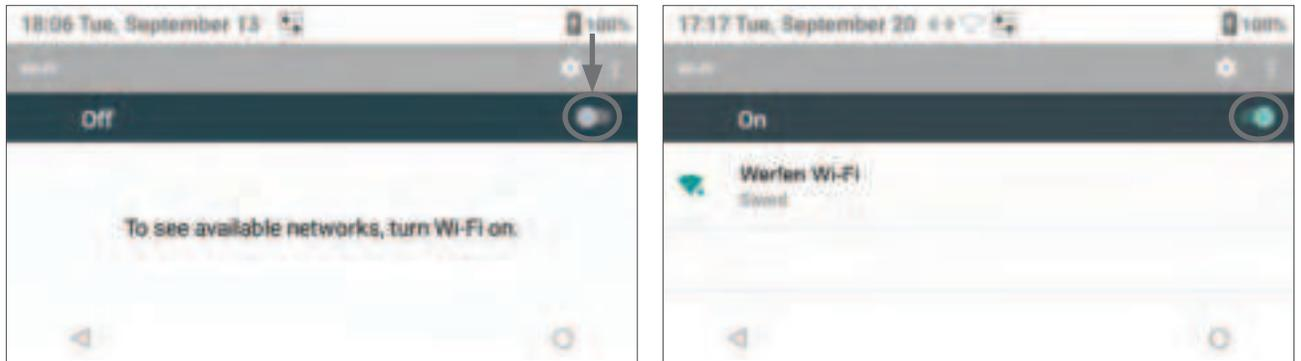

Figure 29: Turn On Wi-Fi
- If **Off** (Off) and  (Toggle Off) are displayed, Wi-Fi is **Off** (Figure 29). To turn it on, set the toggle to **On**  (Toggle On).